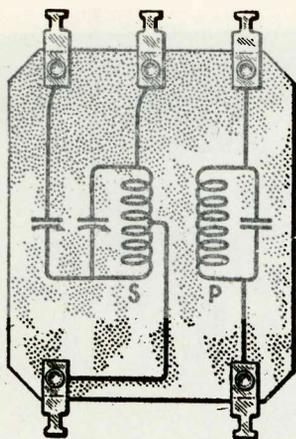

Figure 12—Internal connections of I.F. transformers
- (b) Replace the first I.F. tube and place "dummy" tube in second I.F. stage and adjust the neutralizing condenser on the second I.F. transformer for position of minimum or no signal as described in the preceding paragraph (a). Figure 12 illustrates the internal connections of the I.F. transformers. It will be noted that the two condensers on the third transformer are connected in parallel for tuning. This stage does not require neutralizing.